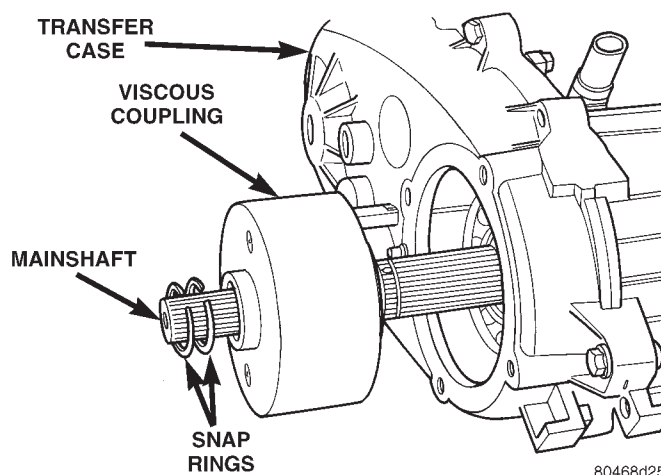

Fig. 36 Viscous Coupling Removal
(17) Remove oil pump locating snap ring and viscous coupling snap ring from mainshaft (Fig. 36).
(18) Remove viscous coupling from mainshaft (Fig. 36).